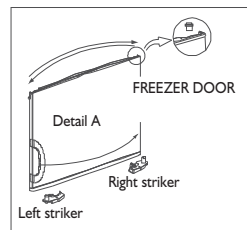

Fig. 8
8. Remove the top bushing and insert it into the left hole. Remove the right door striker and mount the left one (in the user manual bag) on the left. (Fig. 8)
- 8.1 Remove the covers of the door handle. Unscrew the screws fastening the door handle. Fit the door handle on the right side by performing the sequence described above in reverse order. (Fig. 8/ Detail A) (for the “New Emotion” design only)